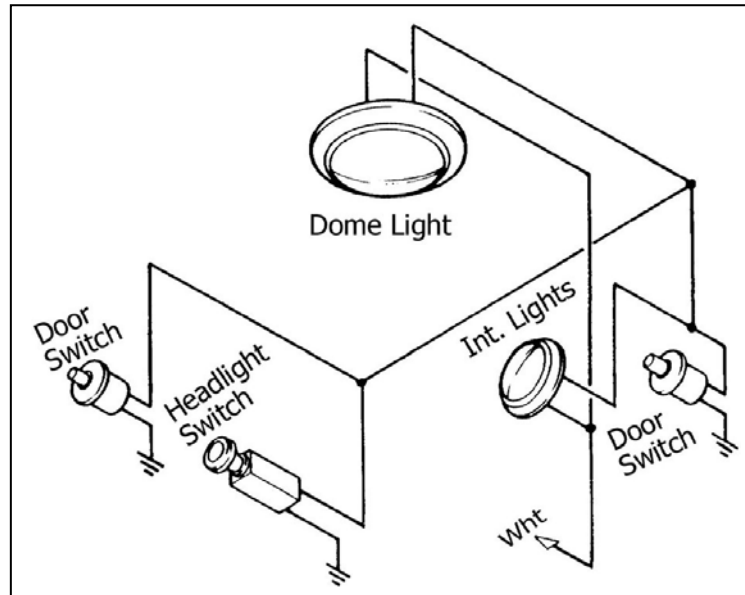

Figure 8.2 Interior Lighting (Door Jamb Switch – Painless Part #80170)
8.2 Interior Lighting. See Figure 8-2
- 8.2.1 Interior lights are switched through the optional door switches and/or the dash-mounted headlight switch, which is usually rotated counter-clockwise to turn on. These switches apply ground to the circuit. YOU WILL NEED TO SUPPLY THE GROUND WIRES that go to the door switches. 12V is continually present at the light bulbs. See Figure 8-2.
- 8.2.2 If you are using door switches, you will need to add the wires connecting them. Connect one end of the wire to the door switch and the other end to the ground wire on the light switch. See Figure 8-2.